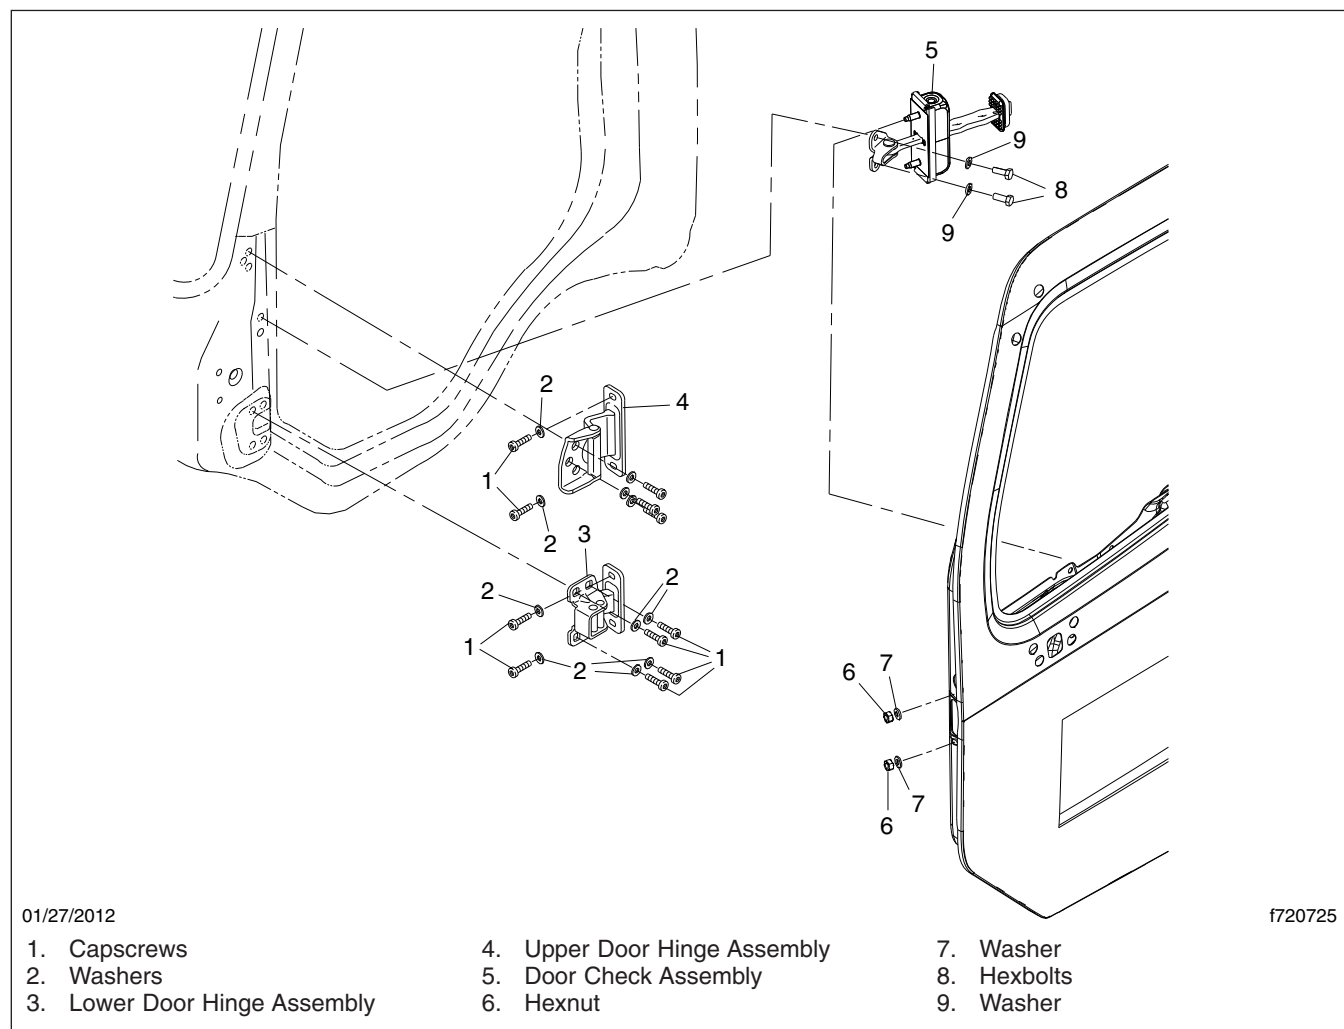

Fig. 1, Door and Door Check Installation
8. Remove the door check assembly as follows. See Fig. 1.